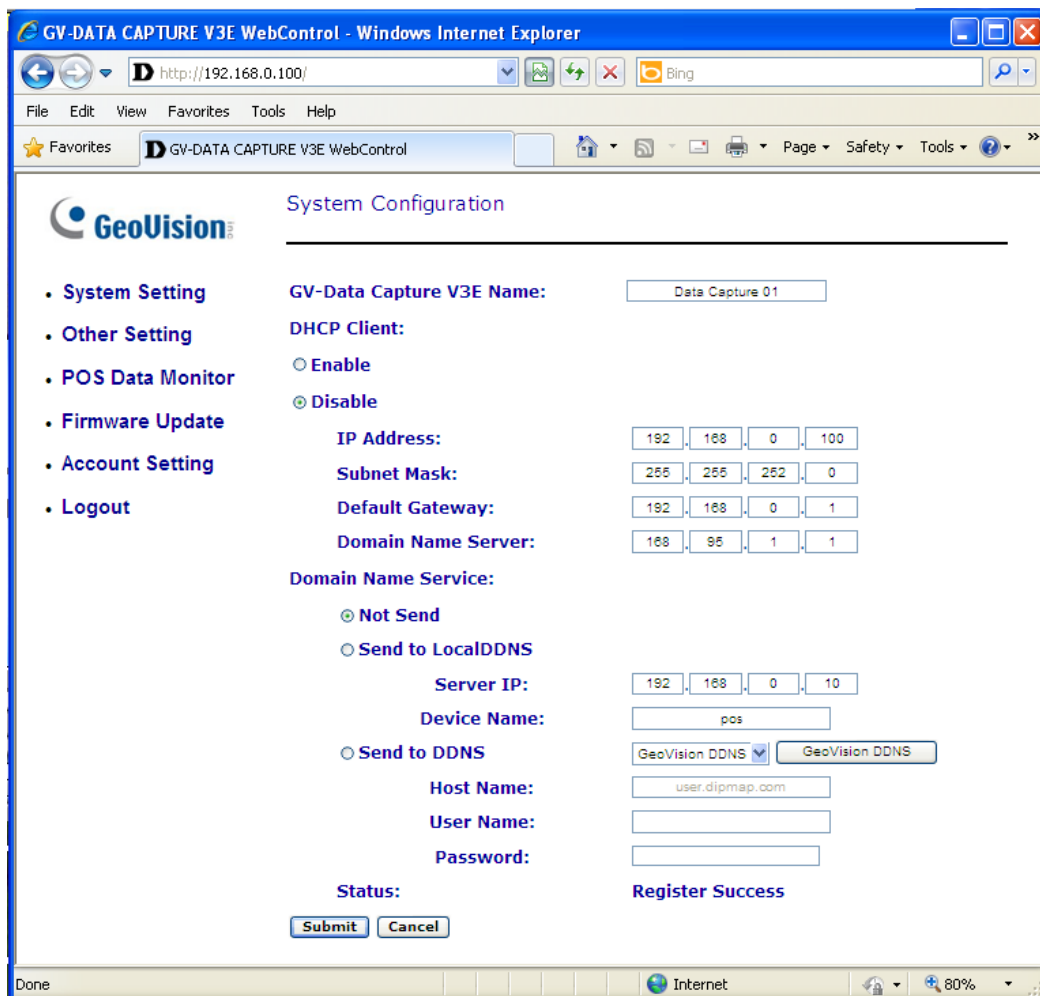

Figure 10
2. In the User Name and Password fields, type default value **admin** and **1234** respectively, and click **OK**. The GV-Data Capture V3E Web interface (see *Figure 10*) appears.
1. In the left menu pane, click **System Setting**, and then click the **GeoVision DDNS** button (see *Figure 10*). Or open an Internet browser, and type the web address <http://ns.dipmap.com/register.aspx>. This page appears.
1. Follow the Steps 1 to 2 in 4.1.1 *Fixed IP* above. The GV-Data Capture V3E Web interface (see *Figure 10*) appears.